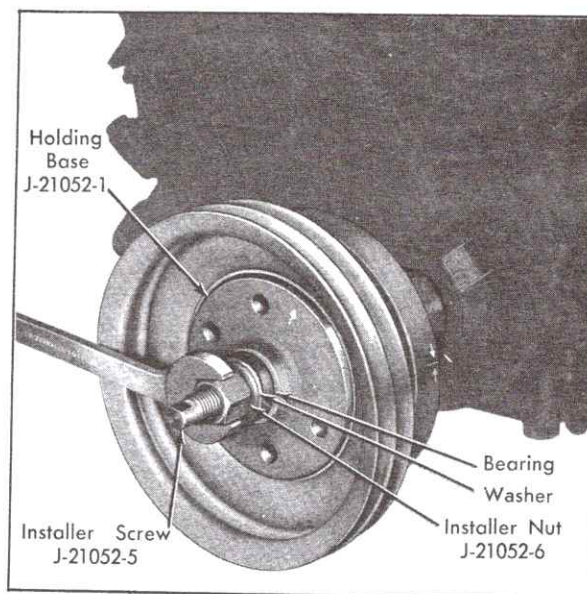

Fig. 6-122 Harmonic Balancer Assembly Installation
13. Place Holding Base, J-21052-1, against front face of pulley and thread Installer Screw, J-21052-5, into end of crankshaft. Position thrust bearing with inner race forward, washer next, and Installer Nut, J-21052-6, last, Fig. 6-122.
4. Install harmonic balancer, Fig. 6-122, using Holding Base, J-21052-1, Installer Screw, J-21052-5 and Installer Nut, J-21052-6 as required. Remove balancer installer tools, and install plug in end of crankshaft, as described in Note 6-104b, steps 10 through 16.